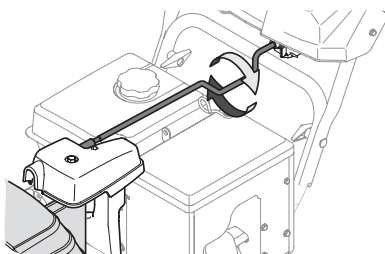

Figure 3-12
4. Grasp indented portion of chute control rod and manually rotate chute assembly to the right or to the left. See Figure 3-12.